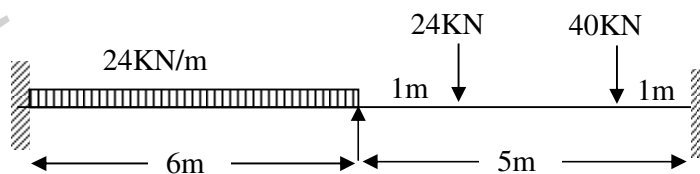

Figure 3
3. Solve the continuous beam in Figure 3 by using theorem of three moments.